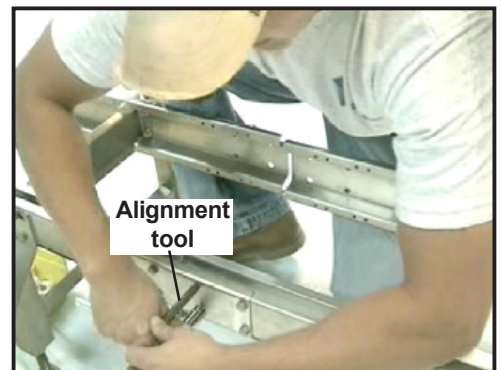

Figure 6: Use alignment tool (in open hole) to draw Bed Sections together
- Insert an alignment tool into the open hole, and draw the two frames together (Figure 6). Ensure that the frames are aligned (Figure 7) by feeling the connection with your fingers.